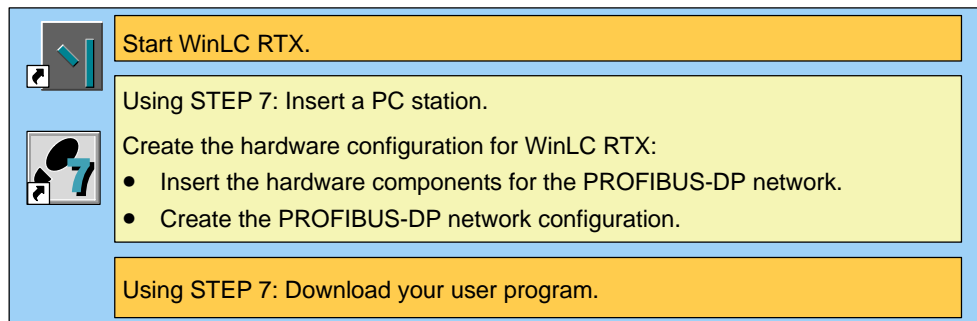

Figure 4-3 Using STEP 7 to Configure the WinLC RTX
The hardware configuration defines the network addresses and the distributed I/O (DP) for the WinLC RTX controller. It also defines the default operating parameters, such as the minimum scan cycle time. As shown in Figure 4-3, you must use the STEP 7 programming software to configure WinLC RTX: